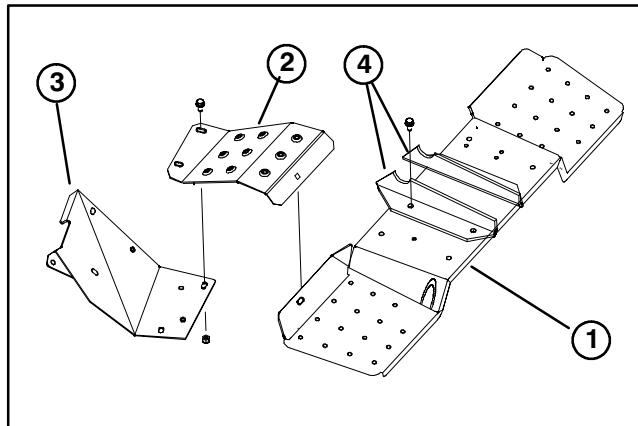

Figure 8
3. Remove fasteners securing foot rest shield to R.H. footrest (Fig. 8). Loosen fastener securing footrest shield to foot step. Retain fasteners for re-installation.